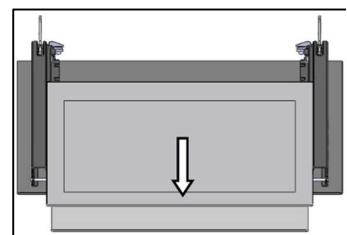

Figure 14
- Gently pull out the inner and middle parts of glass (Figure 14)